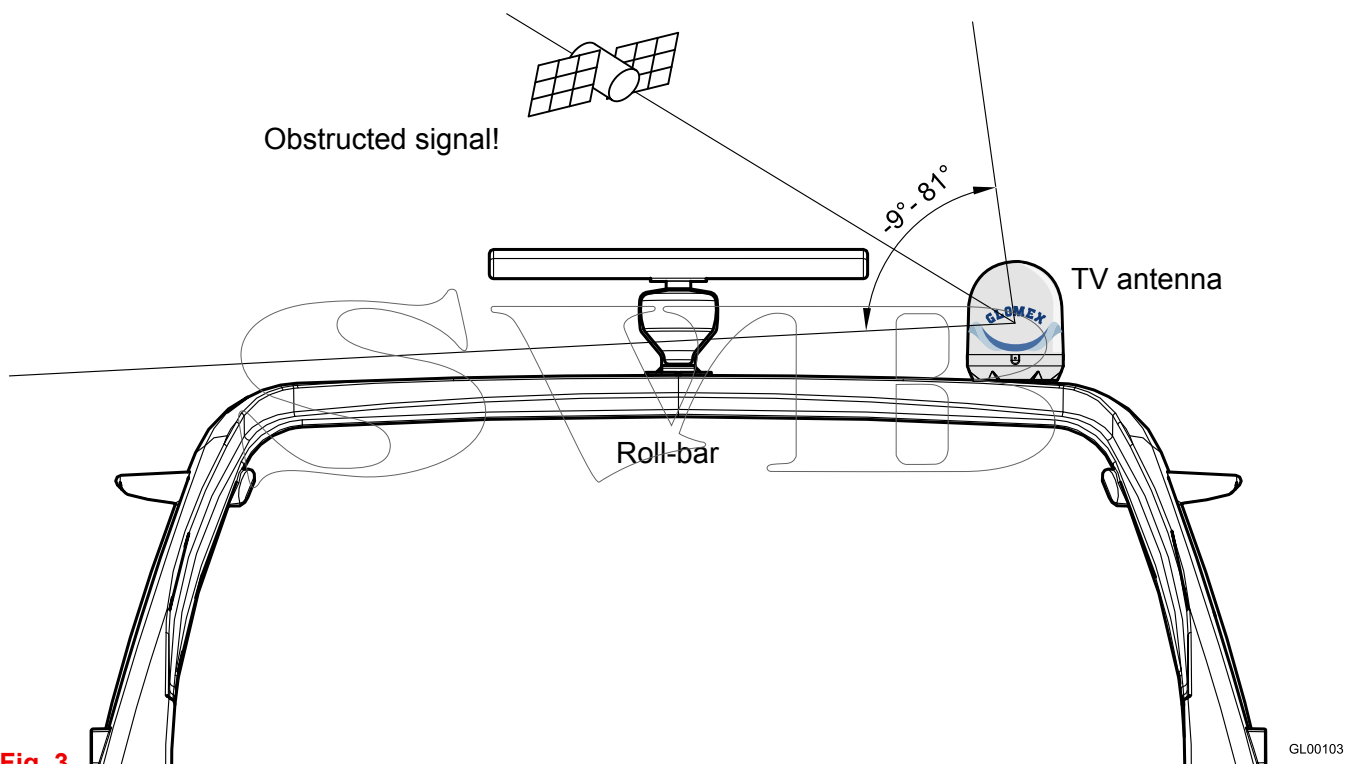

Fig. 3
- the antenna requires a lifting angle between  $-9^\circ$  and  $81^\circ$  to receive satellite signals (Fig. 3).